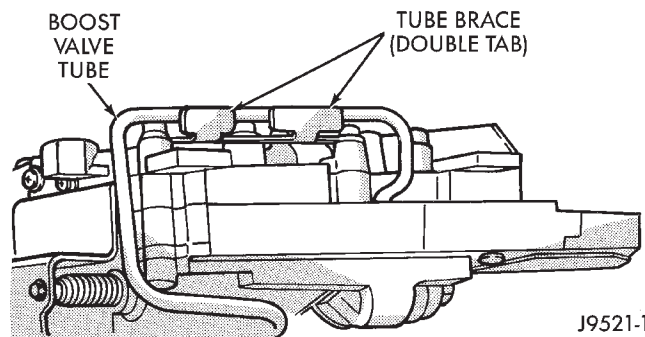

Fig. 65 Boost Valve Tube Brace
(26) Bend back tabs on boost valve tube brace (Fig. 65).